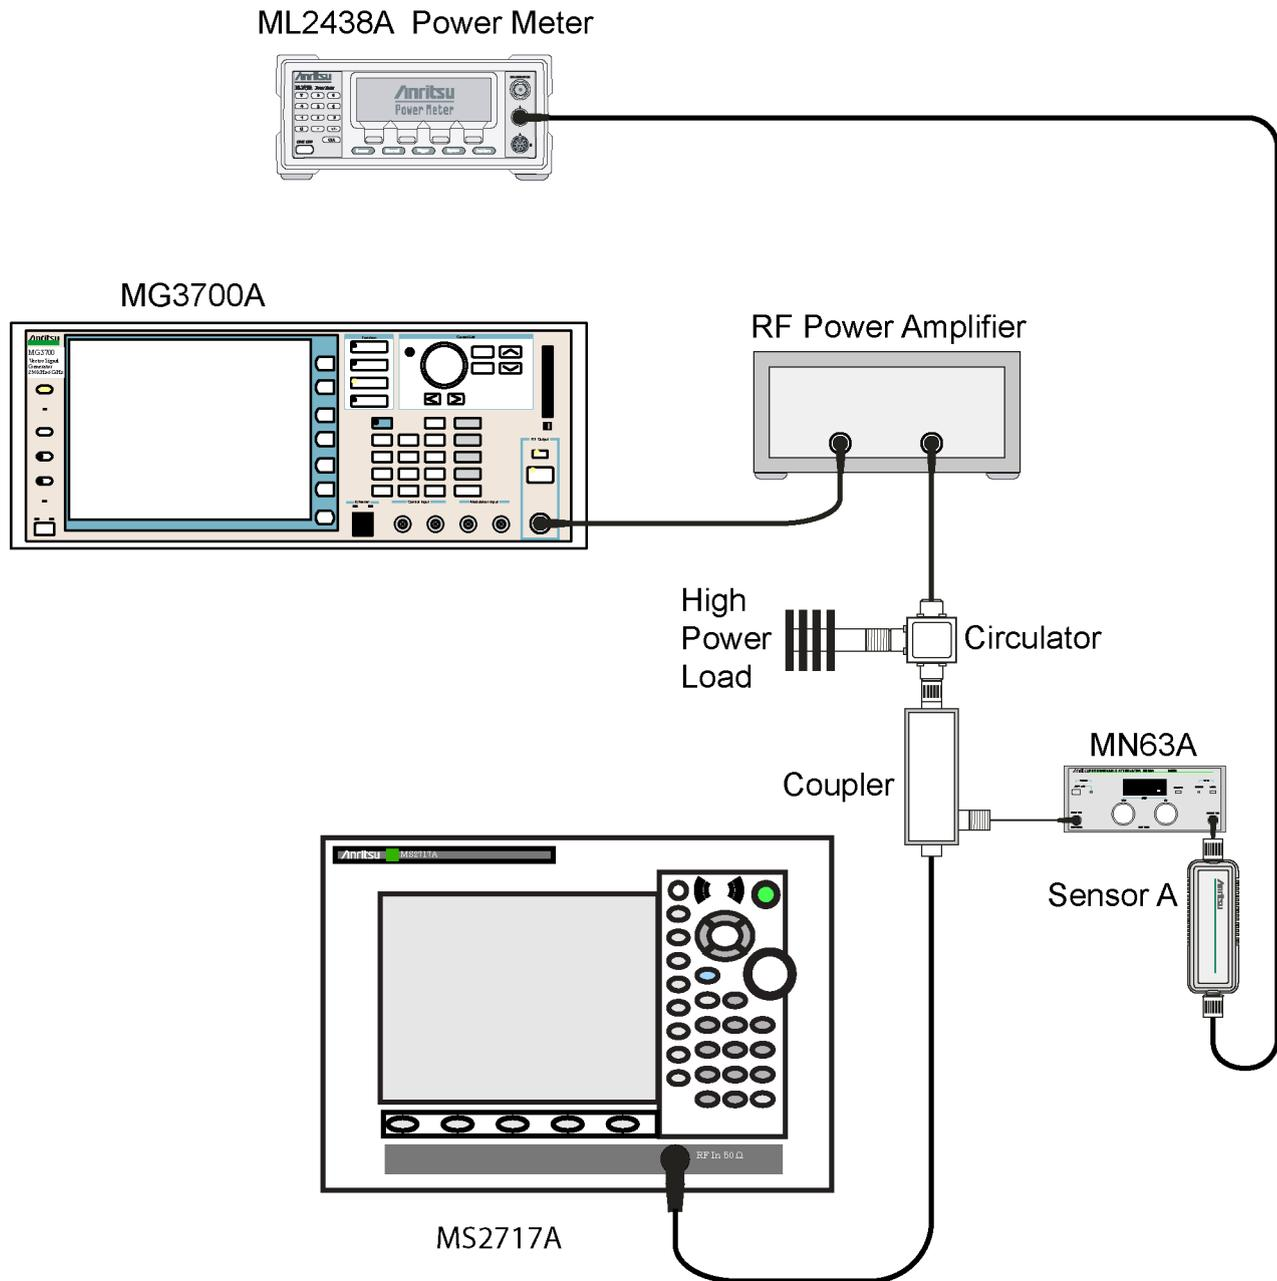

Figure 2-5. WCDMA RF Measurement Verification Setup
33. Disconnect the coupler from Sensor B and connect the coupler to the MS2717A. Refer to Figure 2-5.